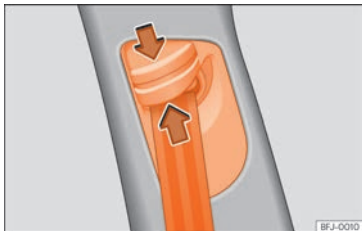

Fig. 14 Next to the front seats: belt height adjuster.
- Keep the guide device pressed down in the direction of the arrow » **Fig. 14**.